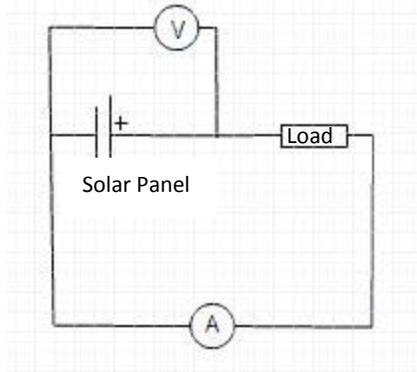

Figure 1: Circuit with voltmeter, ammeter, load and solar panel
1. Wire the circuit according to Figure 1.
1. Set up your solar panel, voltmeter, ammeter and load according to Figure 1